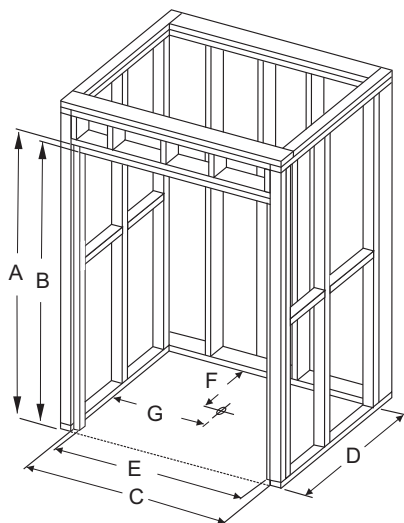
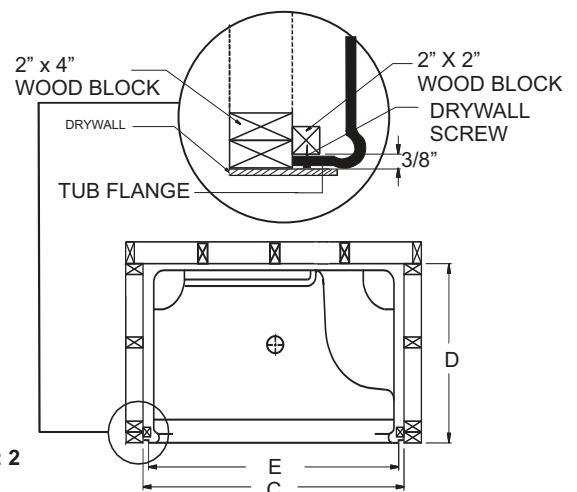

FIGURE 1 - LAYOUT DIMENSIONS
FIGURE: 2
Figure 1 and Figure 2.
- Inside dimensions of the studded alcove are to be as specified in Figure 1.
- Follow Figure 2 as specified to ensure width is E" between the 2" x 2" recessed studs. (See enlarged detail.)
- Build solid framing to the dimensions in Figure 1.
- Location of Mirolin supplied drain for shower stalls is shown in Figure 1 & 2, to be assembled as in Figure 5.